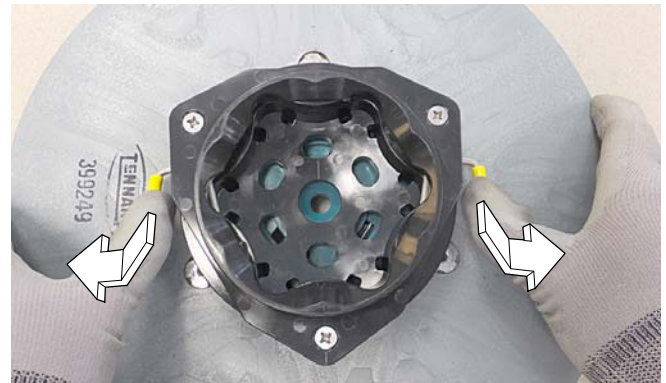

FIG. 10
- Set the yellow spring clips to the open position to make brush installation easier. Press clips down and outward to set (Figure 10).